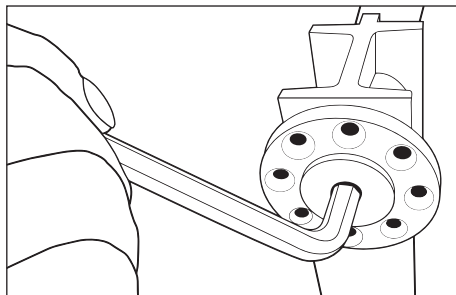

FIGURE 7
- Tighten both adjustment plates by 1 or 2 holes (Fig. 7). The adjustment on both plates must be the same.